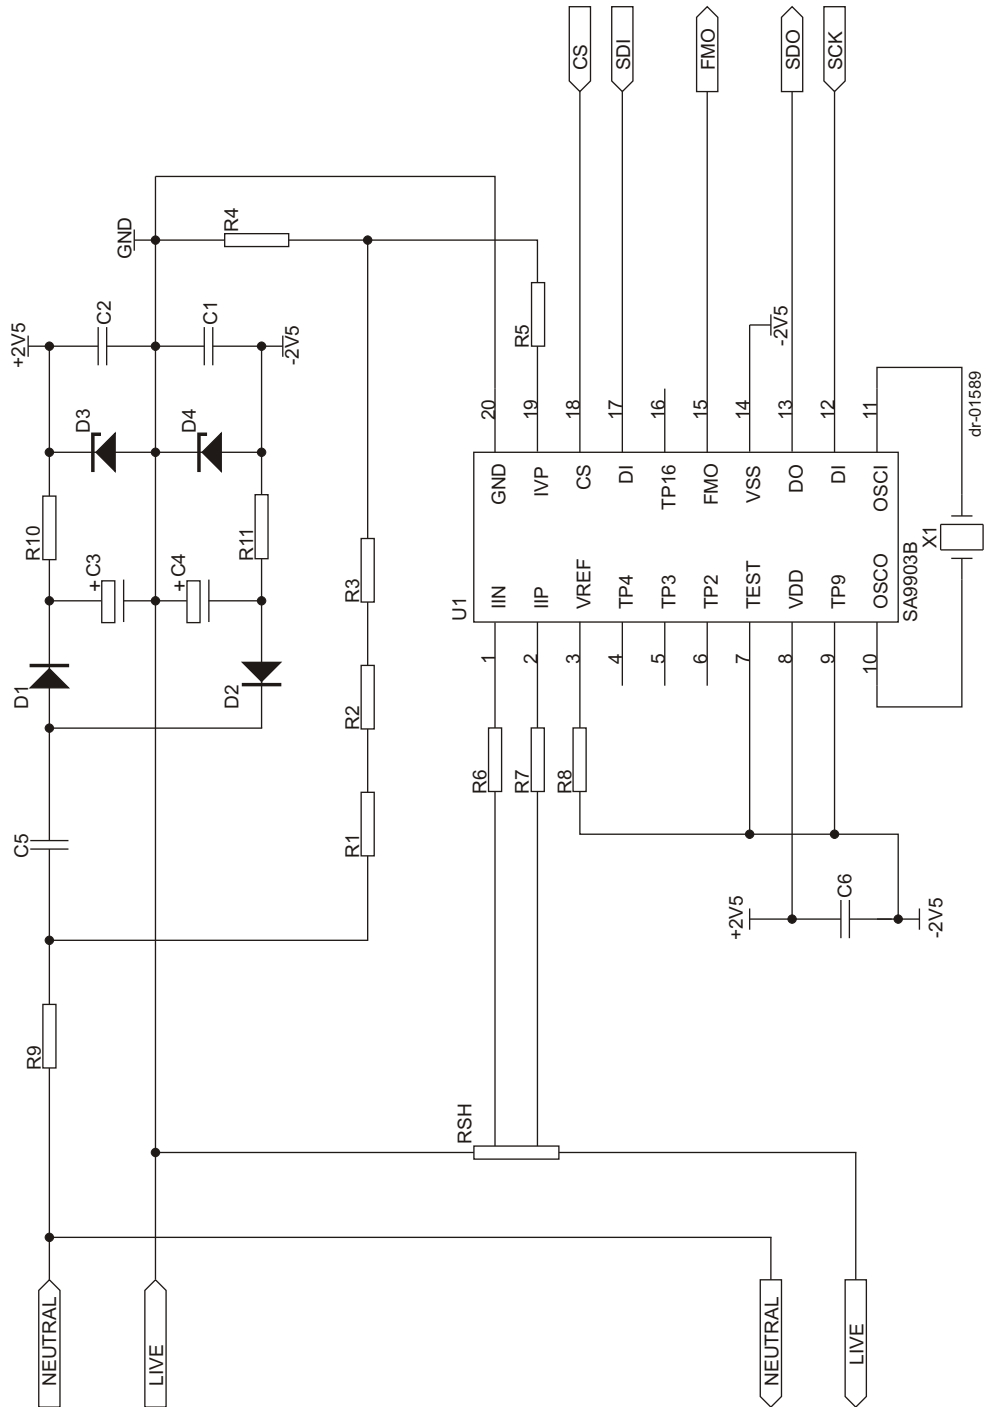

Figure 8: Typical application circuit
In figure 8, the components required for a two wire single phase power/energy metering section of a meter, is shown. The application uses a shunt for the mains current sensing. The metering section described in this section will be designed for measuring 230V/80A with precision better than Class 1
The voltage divider is calculated for a voltage drop of 14V+2.3% (14.33V). Equations for the voltage divider in figure 8 are:
**Parts List for Application Circuit: Figure 8**